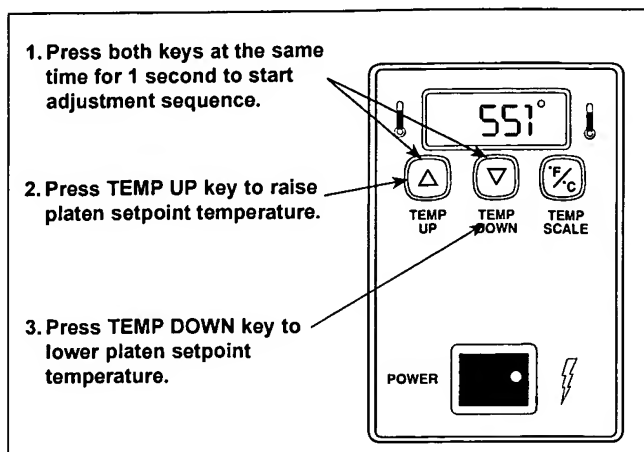

Figure 7. Adjusting Platen Heater Temperature Setpoint
2. Press and hold both TEMP UP and TEMP DOWN keys for over 1 second until the display flashes the setpoint temperature, then release (Figure 7).